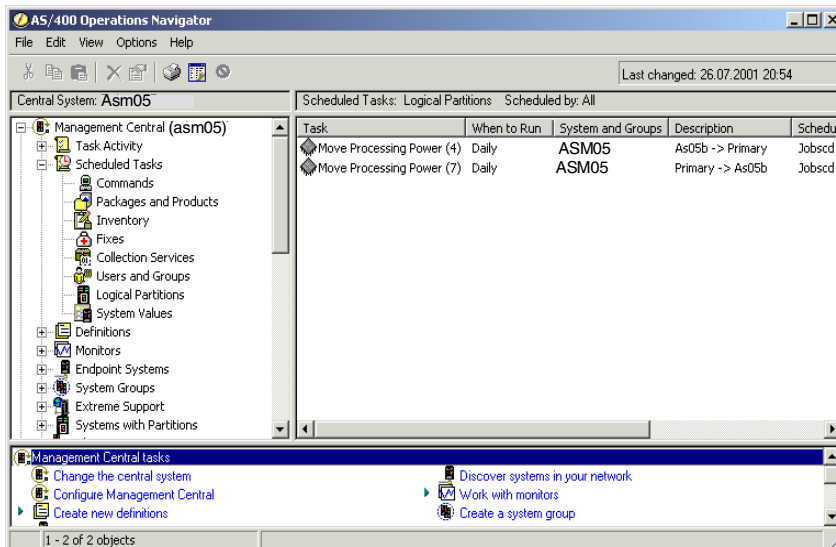

Figure 8-40 AS/400 Operations Navigator: Primary to As05b
16. If you now look in **Management Central-> Scheduled Tasks-> Logical Partitions**, you should see the second scheduled task (Figure 8-40).